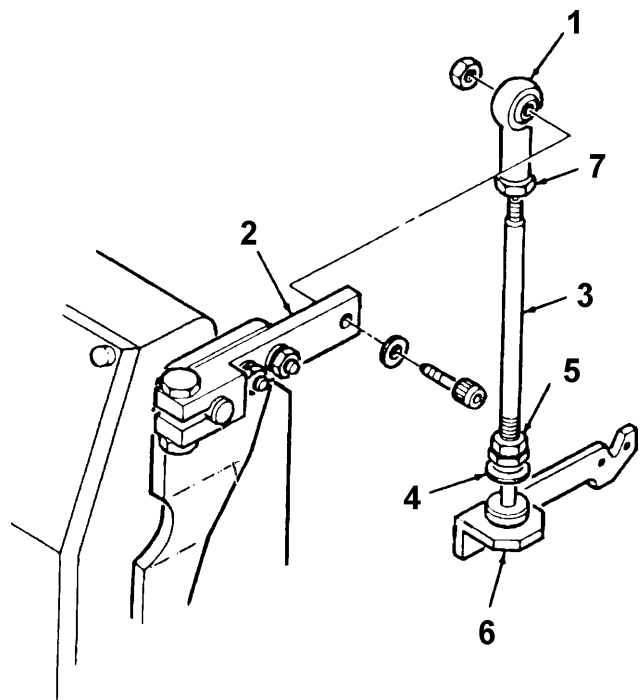

Figure 4-49. Governor Actuator Adjustment
1. Loosen lock nut, (5, Figure 4-49) on bottom of actuator linkage rod (3) and adjust spherical nut (4) so that one thread shows on bottom of spherical nut (4). Tighten the lock nut (5) against spherical nut (4).
2. Make sure the actuator lever (2) reaches its stop just prior to the engine fuel lever (6) reaching its stop. Adjust length by loosening lock nut (7) on top of linkage rod (3) and turn actuator linkage rod in or out of ball joint (1). Tighten lock nut (7).